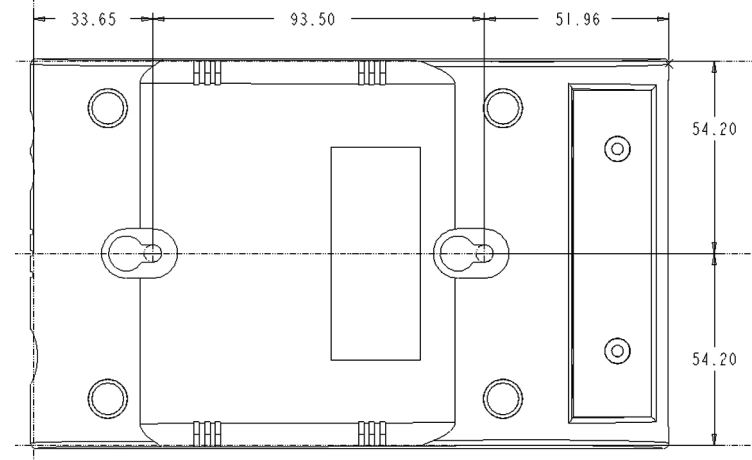

Fig.2-3-2
2.1.2●T1 style printer's outline dimension is as the Fig.2-3-1 and Fig.2-3-2 shows. (unit: mm)
•T1 style printer's dimension to rivet on the wall and the table-board is as Fig.2-3-2 shows.